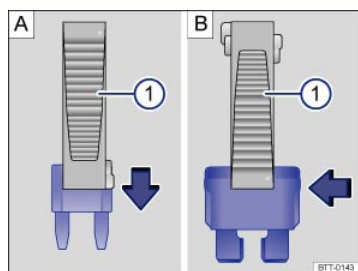

Fig. 202 Removing or installing a blade fuse with the plastic tweezers: : MINI. : ATO.
- For *blade fuses*: Depending on the type of fuse, slide the tweezers ⇒ Fig. 202 A ① or ⇒ Fig. 202 B ① onto the fuse in the direction of the arrow.
- If the fuse is blown, replace the fuse with a new fuse of the *same* amperage (same color and same imprint) and *same* size ⇒ ①.